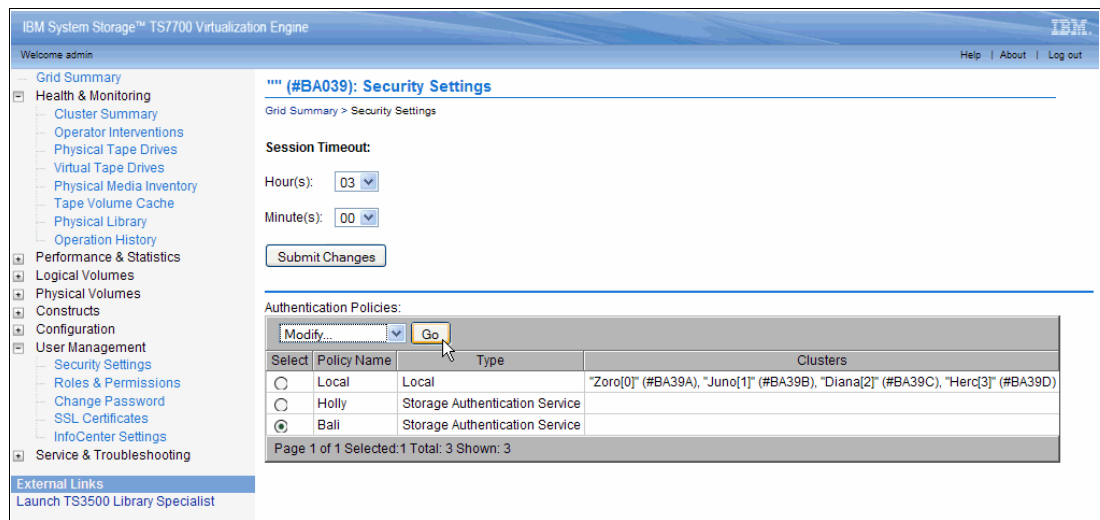

Figure 8-67 Selecting Modify Security Settings
- ▶ In the Authentication Policies table select **Modify** from the Select Action drop-down menu as shown in Figure 8-67.